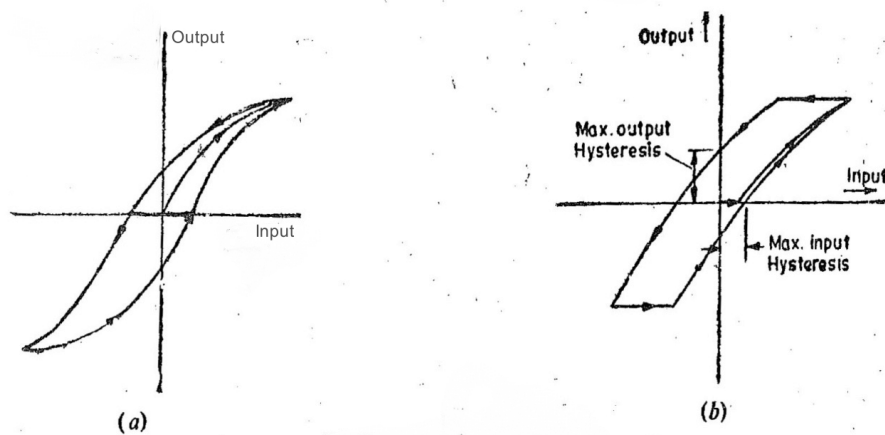

Figure 1.6: Hysteresis effects
12. **Hysteresis:** Hysteresis effects show up in any physical, chemical or electrical phenomenon. Hysteresis is a phenomenon which depicts different output effects when loading and unloading whether it is a mechanical system or an electrical system and for that matter any system. Hysteresis is non-incidence of loading and unloading curves. Hysteresis, in a system, arises due to the fact that all the energy put into the stressed parts when loading is not recoverable upon unloading. This is because the second law of thermodynamics rules out any perfectly reversible process in the world. Hysteresis effect curves are shown in Fig. 1.6